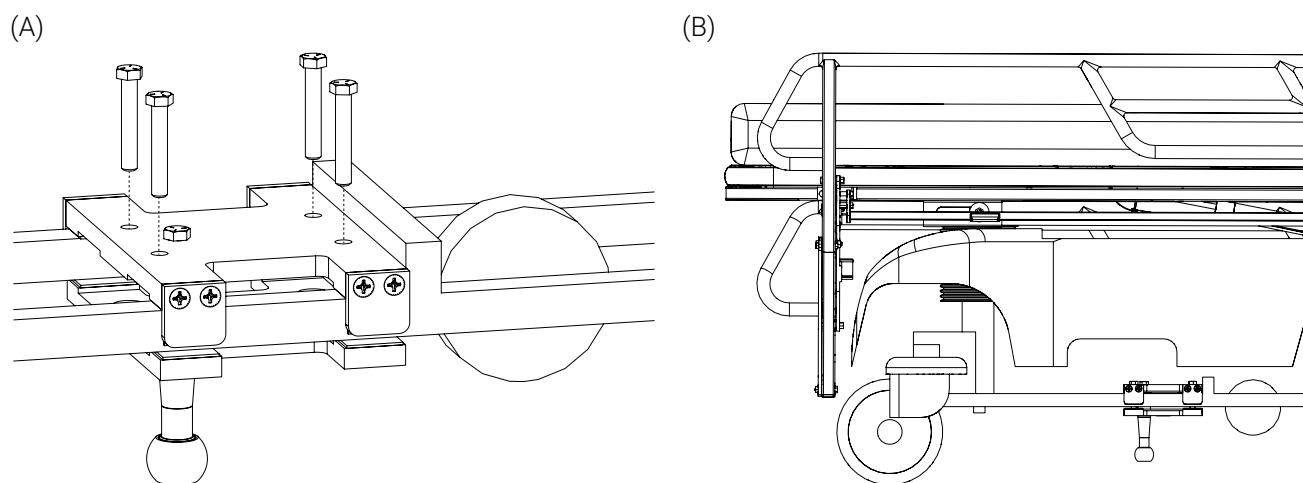

Figure 32: Installing the Foot End Anchoring Hitch on the stretcher frame
8. Align the screw holes of the plates, then tighten four (4) 3/8 in.-16 X 2.25 in. L hex bolts using a 9/16 in. socket and torquemeter (Figure 32).